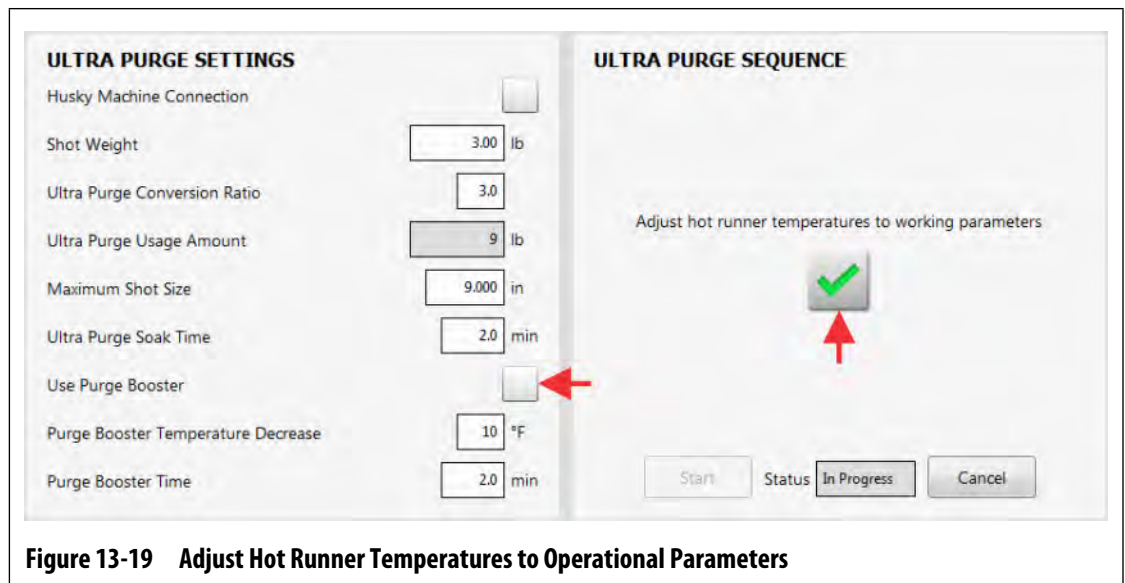

Figure 13-19 Adjust Hot Runner Temperatures to Operational Parameters
25. Make sure that the Use Purge Booster checkbox does not have a check mark (not enabled) (refer to Figure 13-19).